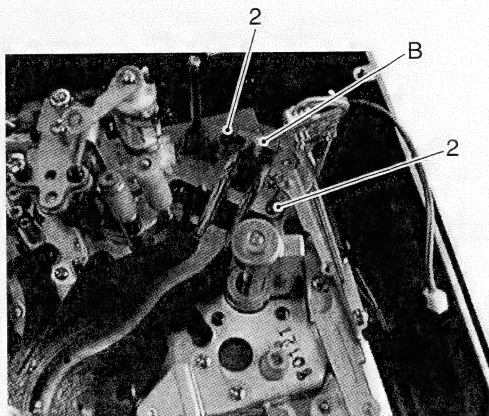

Fig. 2-7-47
5. Attach draw catcher B using the two screws 2 (see Fig. 2-7-47).